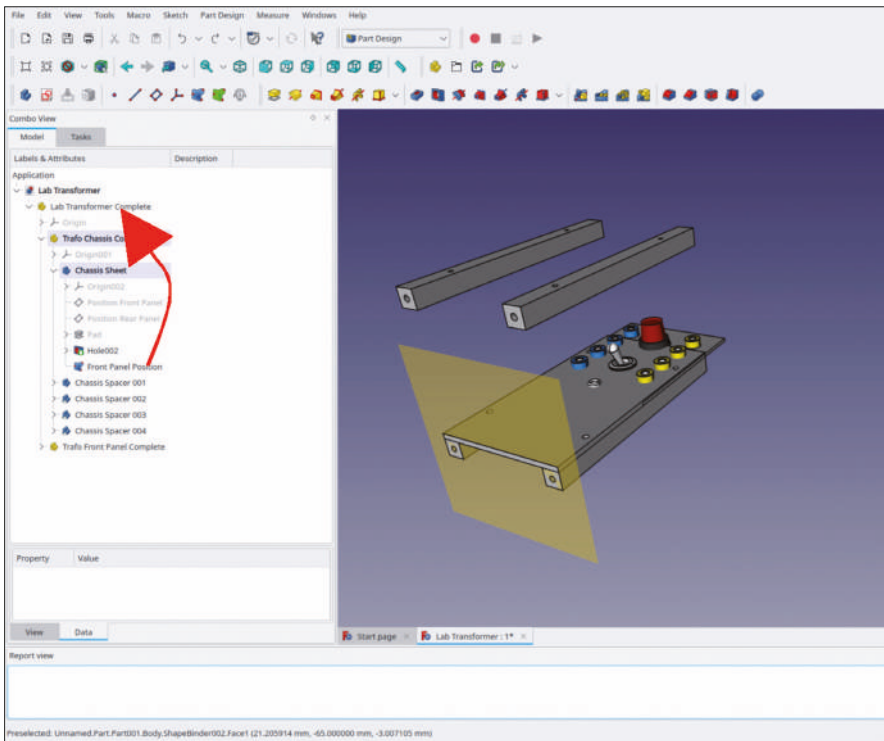

Figure 9-79
7. Rename the new shape binder to 'Front Panel Position'. Drag-and-drop it into the Std-Part-Container 'Lab Transformer Complete' (Figure 9-79). Set its 'Trace Support' property to 'true'.